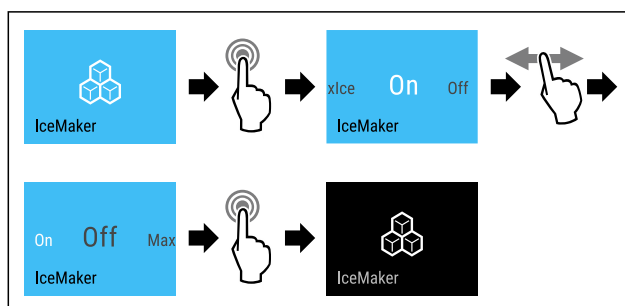

Fig. 20 Example illustration of the active IceMaker function
- Complete the steps (see Fig. 20) .